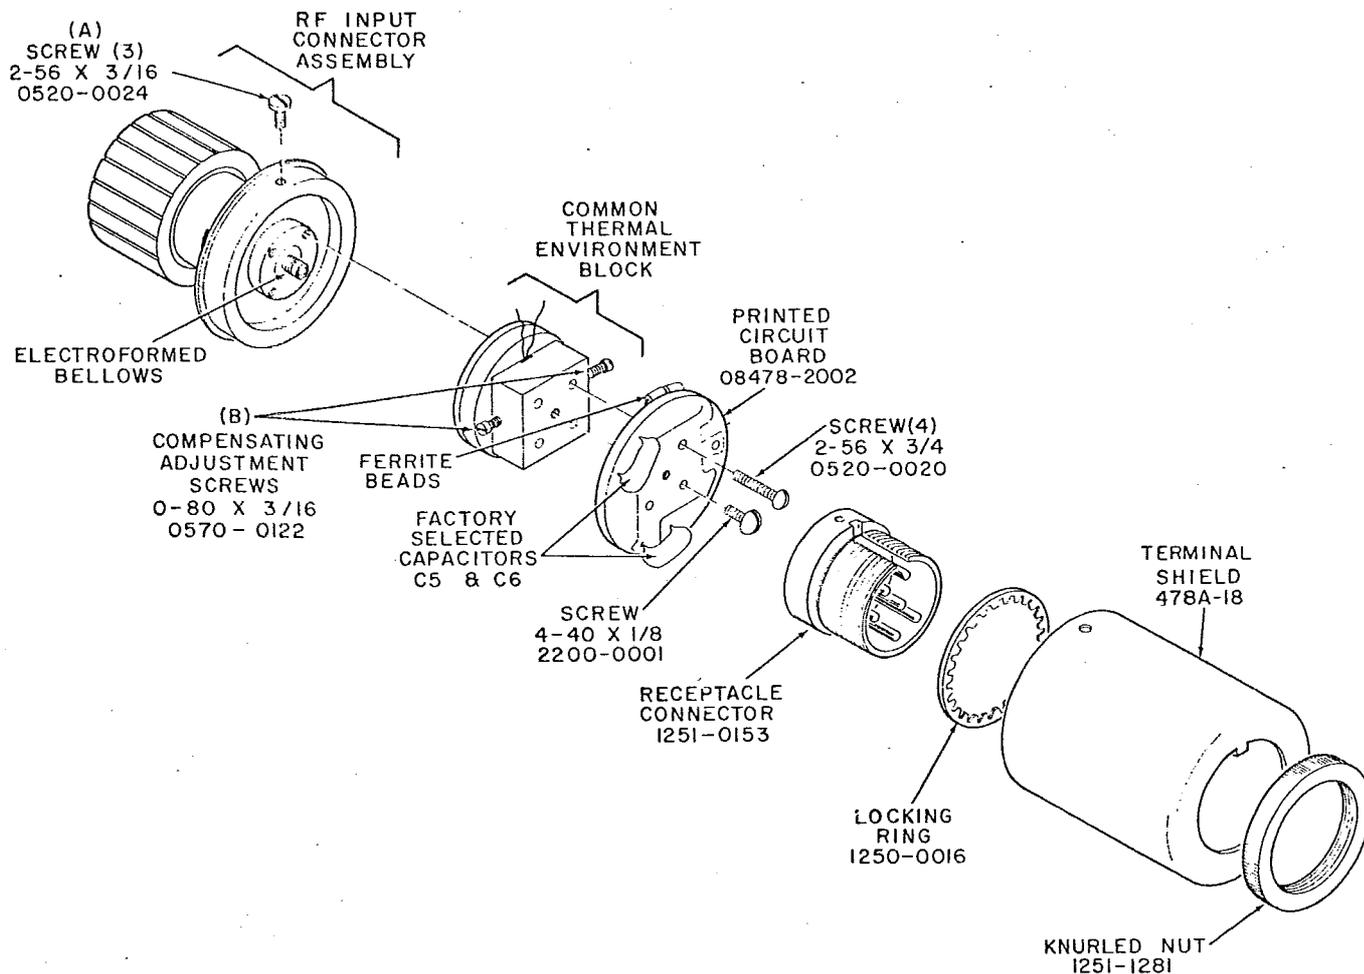

Figure 10. Thermistor Mount Assembly
- 81. Refer to Figure 10, and proceed as follows:
- a. Remove the three screws (A).